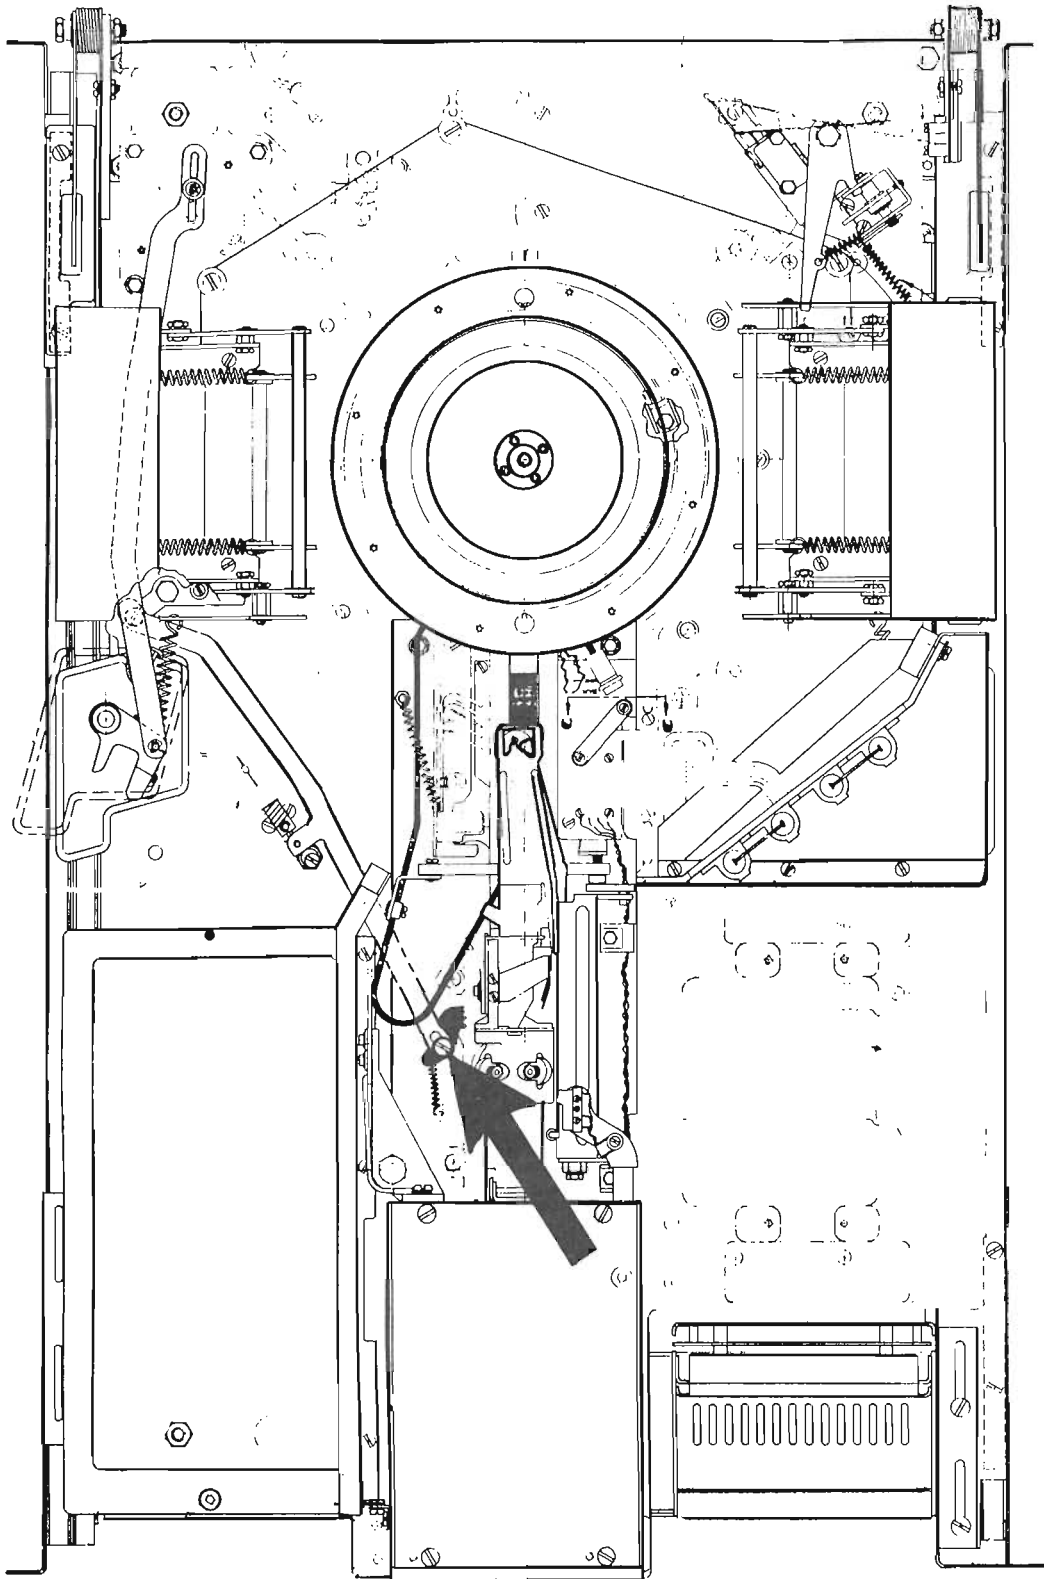

FIGURE 39 - CARRIAGE INTERLOCK
- (d) When unit is OFF, the head carriage will have retracted. Move the carriage forward by manually releasing the carriage interlock (Figure 39) by pushing the indicated link in the direction of the arrow; simultaneously move the carriage towards the bowl.